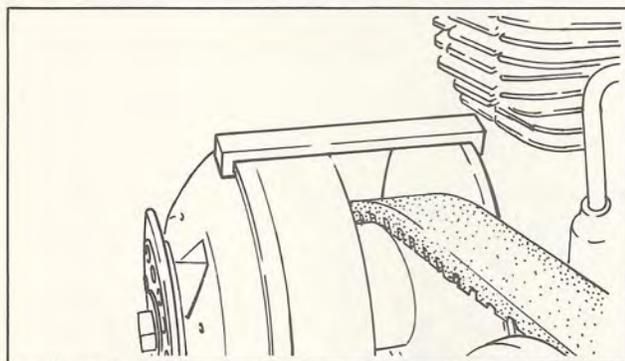

Fig. 2-8
- (2) Install primary sheave holder 1 (special tool) on the edges of primary sliding sheave and primary fixed sheave so that the primary sliding sheave is not forced by the spring. (Fig. 2-8)